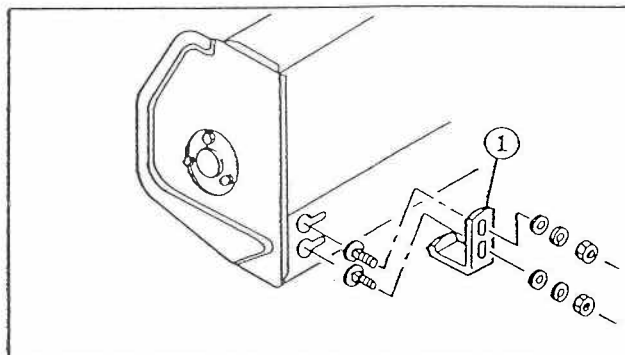

FIGURE 8
- a) Insert two 5/16" x 1" carriage bolts through each skid shoe (fig. 8, item 1) from inside the bend. Place a flatwasher, lockwasher and nut loosely on each bolt and place the bolt heads through the round holes in the outer ends of the bottom angle of the snowblower body. Slide the square shank portion of the bolt head into the slot and tighten securely.